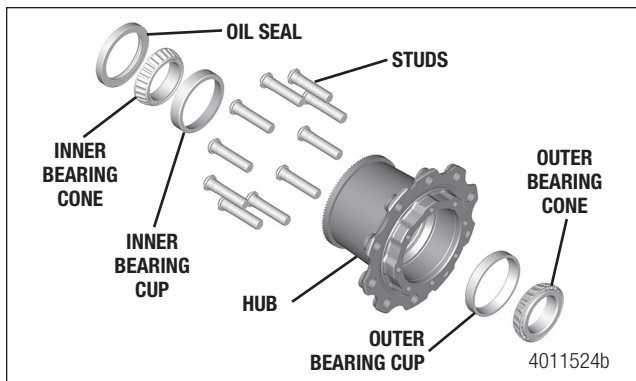

Figure 8.24
1. If the wheel studs were removed from the hub, put the hub in a press with the drum side at the **BOTTOM**. Figure 8.24.
4. Install the outer bearing cup onto the spindle and push it into its cup inside the hub. Figure 8.24.